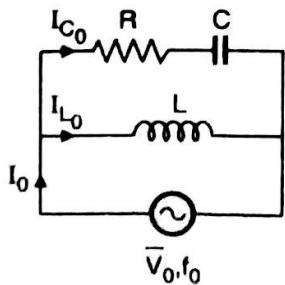

Fig. Q. 2.22
**Q. 43** What is the condition for resonance for the following circuit ? (Refer Fig. Q. 2.22)